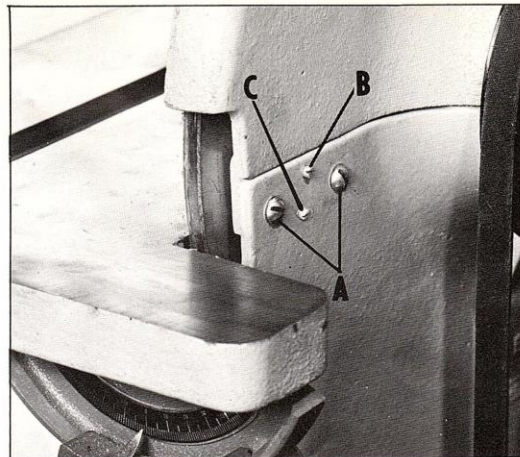

Fig. 16.
1. To tilt the guard forward at the top, slightly loosen the four screws that attach the guard to the disc sander (two of the screws are shown at (A) Fig. 16).
2. Loosen screw (C) and tighten screw (B) Fig. 16, to adjust the guard to the desired forward position at the top. NOTE: The adjusting screws at the opposite end of the disc sander must also be adjusted.
3. To tilt the top of the guard to the rear, follow the same procedure as above, except loosen screw (B) and tighten screw (C) Fig. 16.